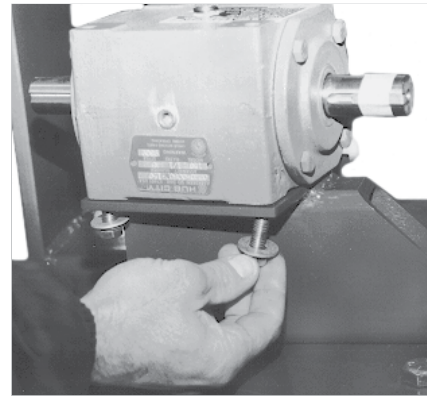

figure 2
2. Remove the gearbox from the mounting assembly (figure 2)